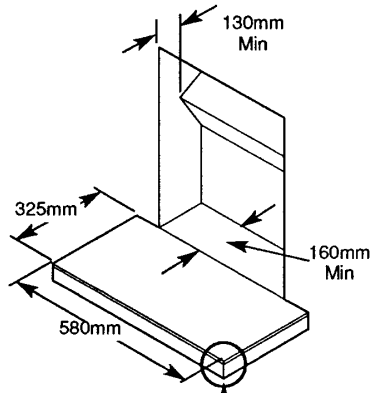

Fig. 7
1. The fire is intended to be hearth mounted only. The hearth must be of a non-combustible material at least 13mm (½ in) thick and measuring at least 325mm (12 7/8 in) deep by 580mm (22 27/32 in) wide. It must be fitted central to the fireplace opening. The top surface of the hearth should be a minimum of 50mm (2 in) above floor level (Fig. 7).